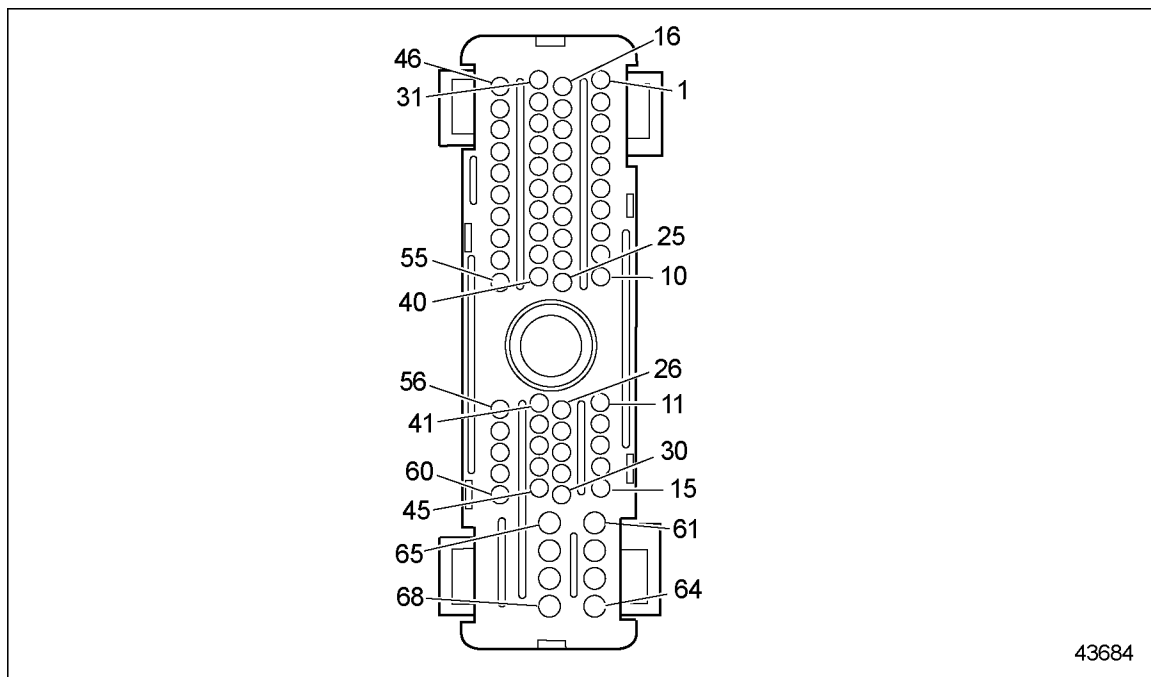

Figure 33-2 ECM/ECU VIH Connector
- [b] If measured resistance is less than 5 Ω , V-27 is shorted to V-59 on the ECU 68-pin connector. See Figure 33-2. Repair the short and refer to section 33.2.2.1.
2. Measure resistance between cavity V-27 and V-11. See Figure 33-2.